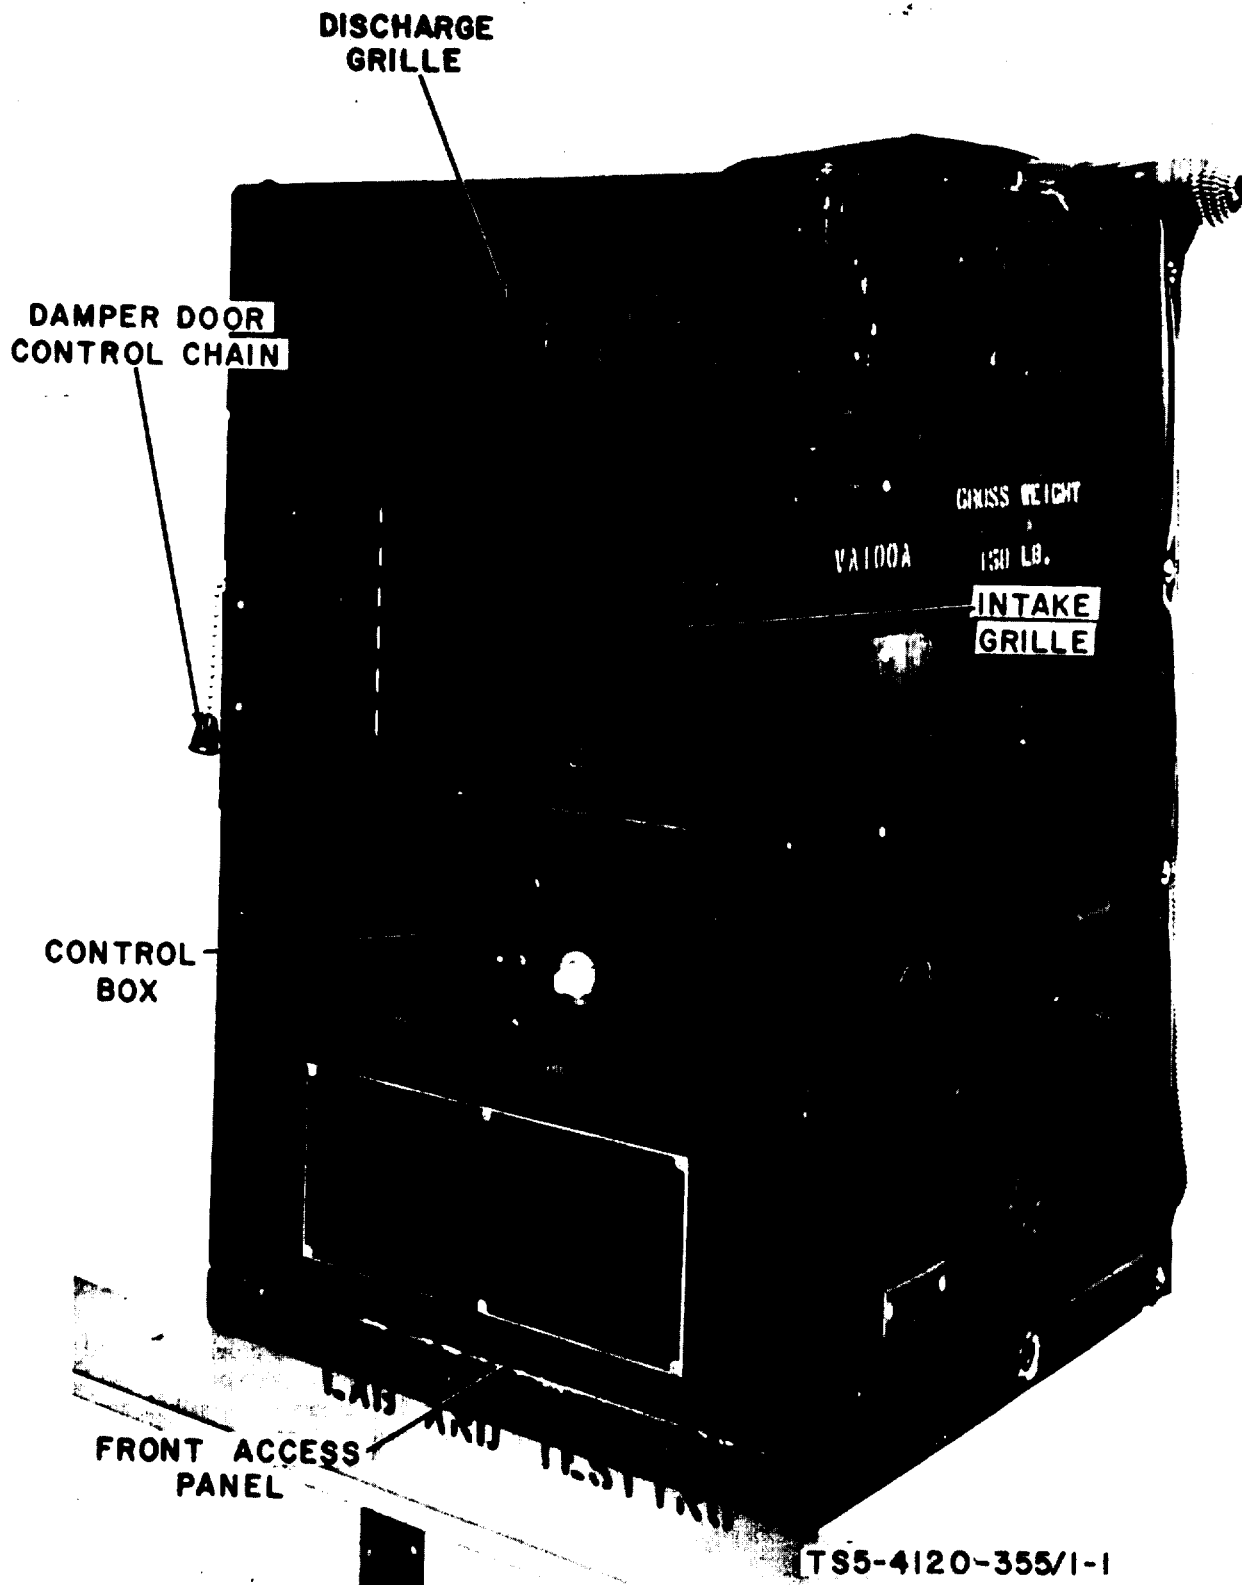

Figure 1-1. Air Conditioner, Left Front Three-Quarter View.
a. General. The air conditioner (fig. 1-1) is used primarily in van type enclosures for providing filtered, conditioned, or heated air as required to maintain service renditions necessary for the efficient operation of electronic equipment and for the comfort of operating personnel housed within the specified vans. It is a completely self-contained, air cooled, electric motor driven unit designed for continuous operation with varying loads. It is equipped with internal ducting to the low side of the evaporator fan so that ventilation air and air from the chemical and biological filter unit may be supplied by the evaporator fan.